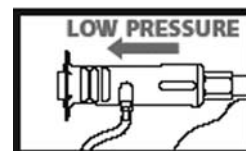

Figure 8
- Push out on black nozzle to ensure lance is in low pressure mode (Figure 8).